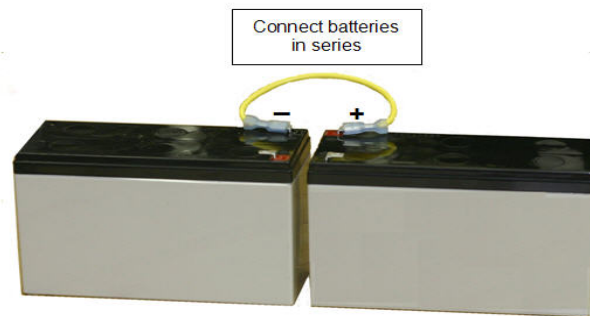

Figure 9: Batteries Connected in Series
2. Connect backup batteries. Batteries shall be Sealed Lead Acid type. Observe correct polarity and voltage. Use two of the same size batteries connected in series as shown in Figure 9. Use up to 33 Ahr batteries depending on circuit loading, BATTERY CALCULATION SHEET is provided on pages 20 and 21.